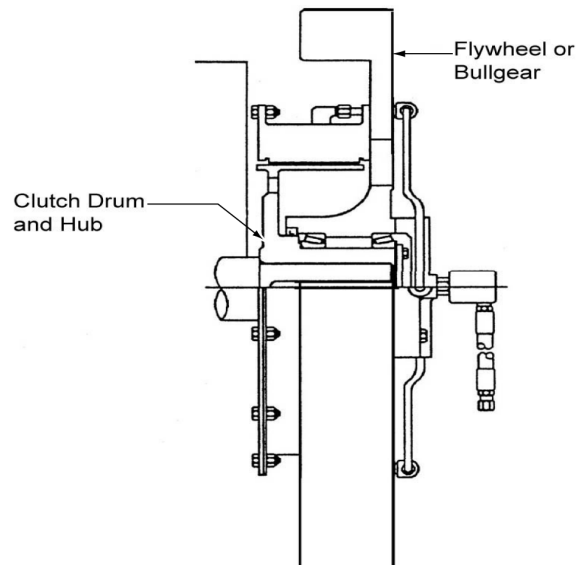

Figure 8
- 2.1.6 **Figure 8** illustrates a VC clutch mounting for punch press applications. The drum and drum hub are attached to the crankshaft or backshaft and the element is attached to a bearing-supported flywheel or bullgear. VC clutches on punch presses are typically used in **combination** with Air-flex type CTE and DBA brakes.